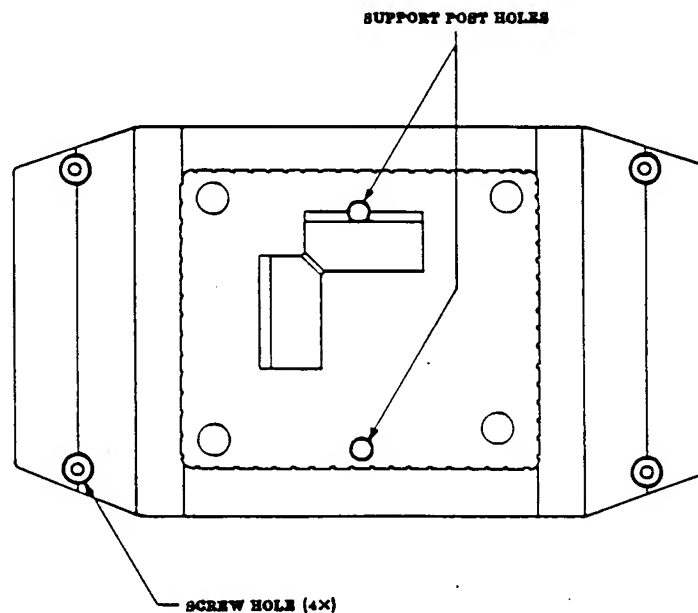

Figure 3-1. CX22 Bottom Housing
- 2) Remove the screws from each corner of the unit; there are four (See Figure 3-1).
- 3) Insert a screwdriver (Phillips-head or flat-Head) into one of the two support post holes in the bottom housing (See Figure 3-1).